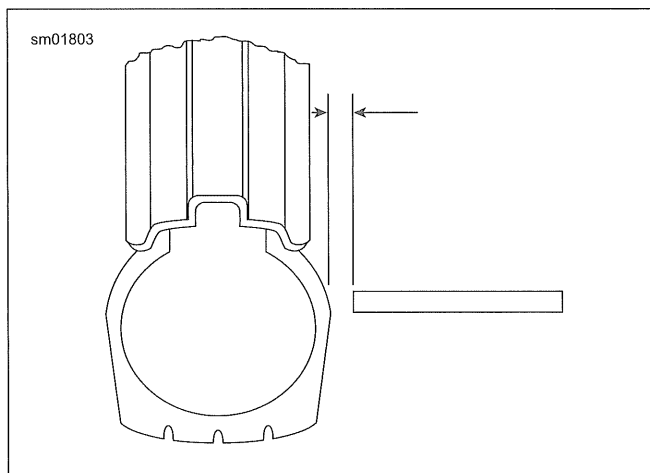

Figure 3-28. Checking Tire Lateral Runout
2. See Figure 3-28. Spin the wheel and measure lateral runout from a fixed point to a smooth area on the tire sidewall.